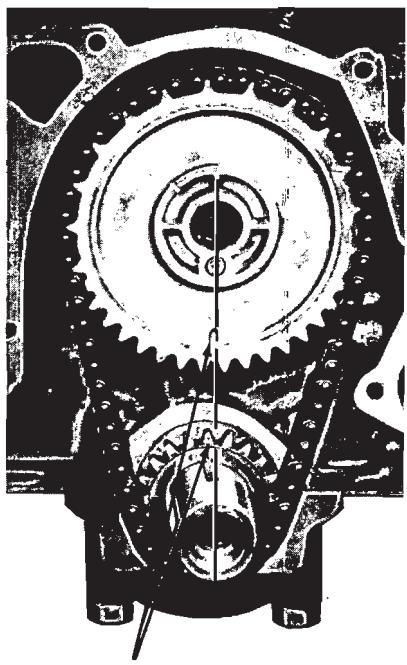
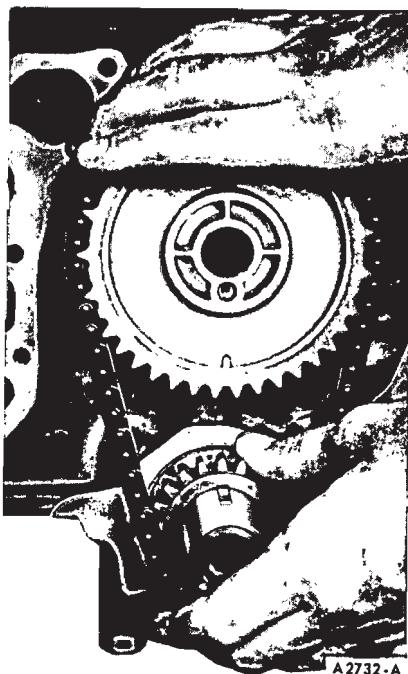

FIG. 34—Aligning Timing Marks
FIG. 35—Removing or Installing Timing Chain
12. Crank the engine until the timing marks on the sprockets are positioned as shown in Fig. 34.
13. Remove the camshaft sprocket cap screw, washers and fuel pump eccentric. Slide both sprockets and the timing chain forward, and remove them as an assembly (Fig. 35).
1. Position the sprockets and timing chain on the camshaft and crankshaft simultaneously (Fig. 35). Be sure the timing marks on the sprockets are positioned as shown in Fig. 34.